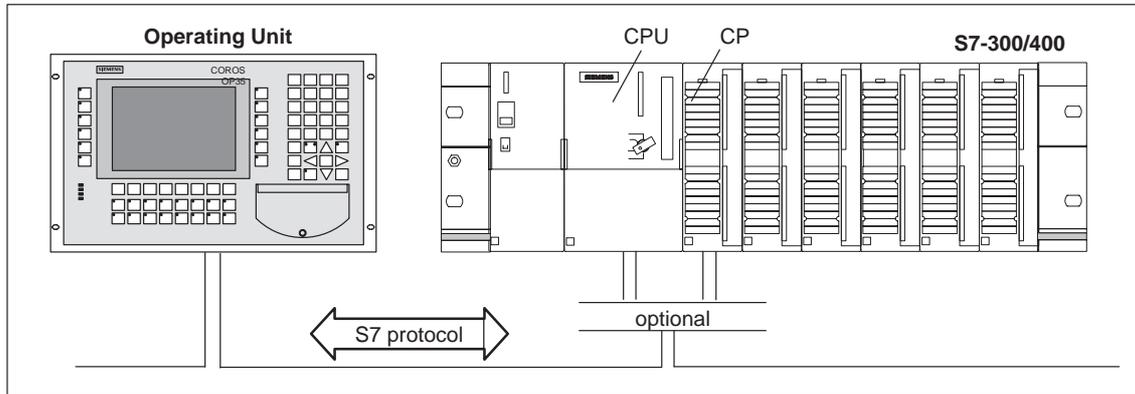

Figure 1-8 PROFIBUS-DP Connection
**Interface** The operating unit is connected via the integral PROFIBUS-DP interface on the CPU or a CP to the SIMATIC S7 (figure 1-8).